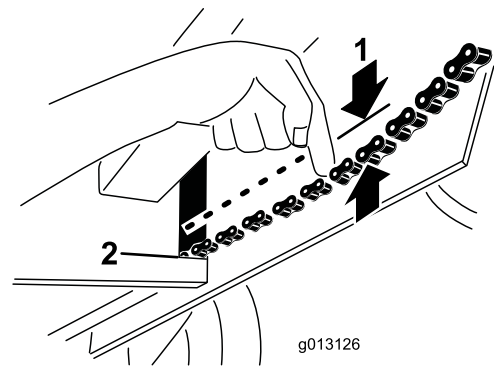

Figure 26
3. Pull down on each chain near the opening in the frame with 10 pounds (4.5 kg) of force (Figure 26). If a chain contacts the bottom of the opening in the frame, tighten it as follows: